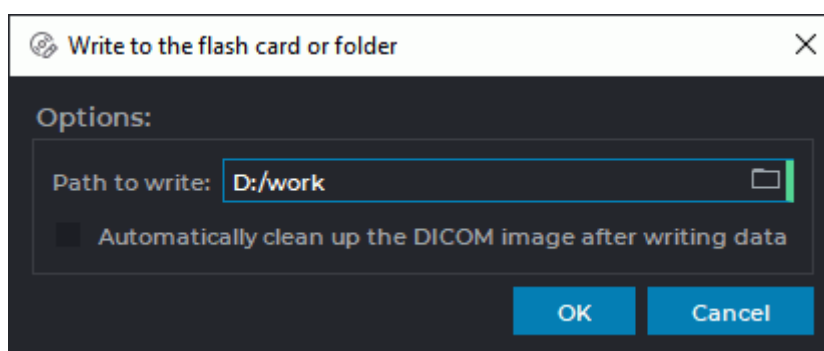

Figure 14.4: Write to the flash card or folder dialog box
1. Click the **Write created DICOM CD/DVD image to the memory card of folder** button on the Disk Creator toolbar. Dialog box is shown in Figure 14.4.